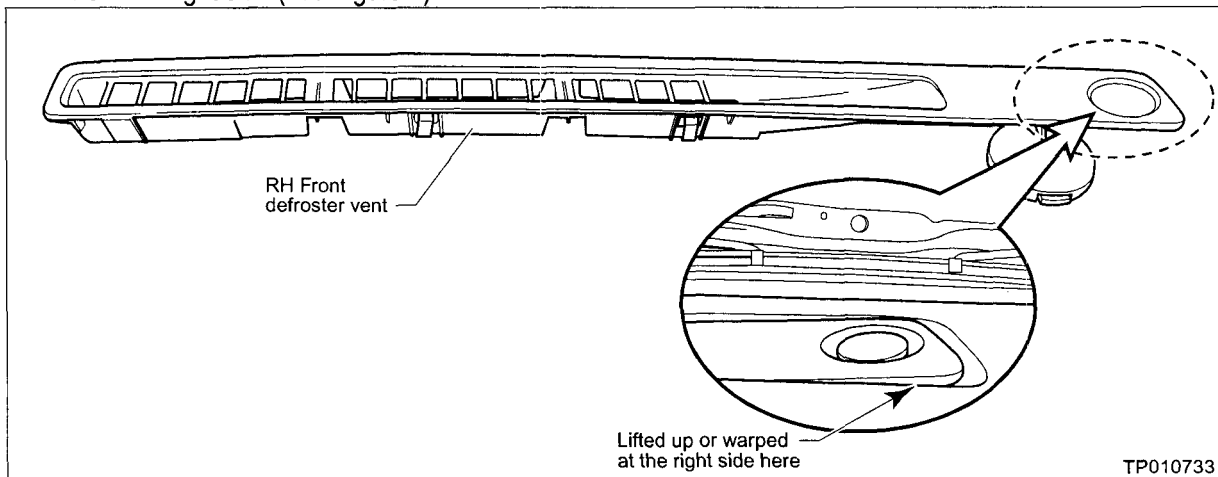

Figure 1
- Rattle noise from the right side of the right hand defroster vent (see Figure 1)
1. Check if the defroster vent is not flush with the dash panel (right side of vent) and/or there is a rattle noise from the right side (see Figure 1).